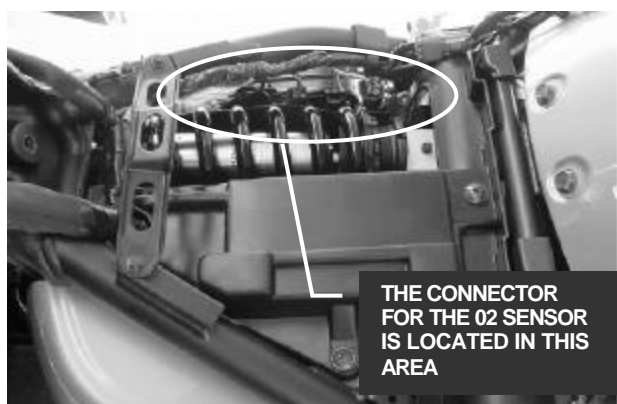

FIGURE 1
2. Unplug the oxygen sensor from the wiring harness (Fig. 1). This may already be done if you have an aftermarket exhaust.